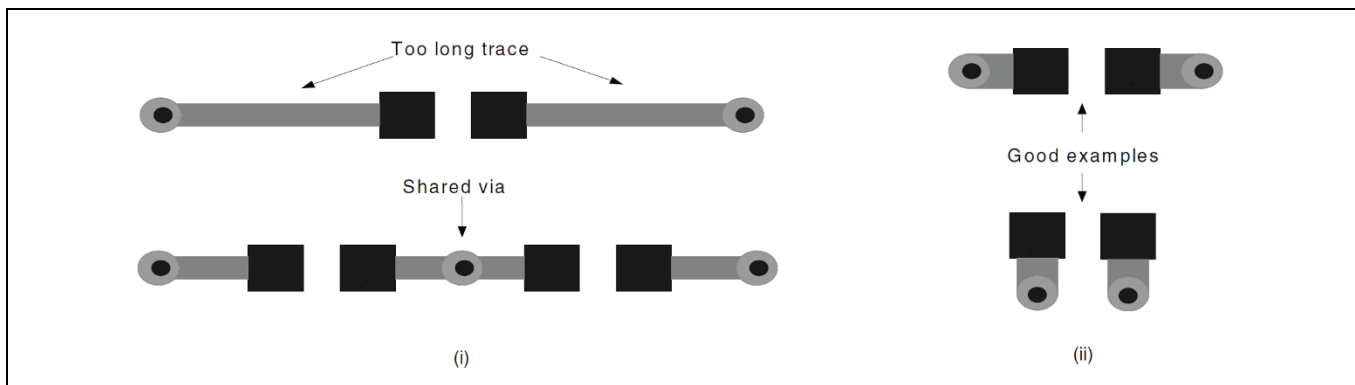

Figure 18 Decoupling Capacitor Routing Techniques: (i) Poor Routing examples, (ii) Good Routing examples
- The decoupling capacitor trace length should remain short and should have a unique via, not shared with another decoupling capacitor. Figure 18 presents good and poor examples of decoupling capacitor routing techniques.